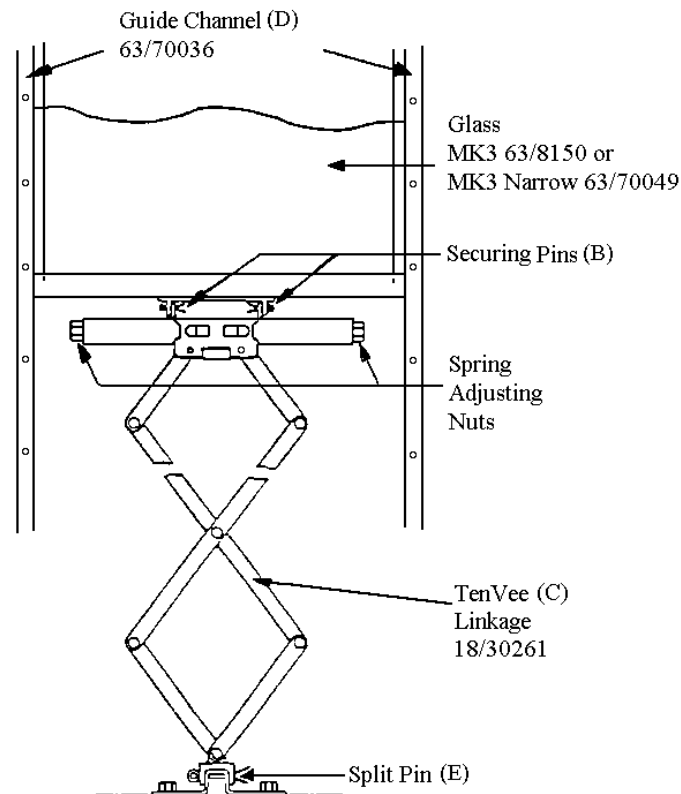

Figure 1: Balance Mechanism
- 1.3 Remove top split pins (see Figure 1 item B) connecting the TenVee (see Figure 1 item C) to the bottom of the droplight frame.
- 1.5 With the droplight in the closed position, peel away the flock sprayed lining or felt from the back of one of the guide channels (see Figure 1 item D). Remove the exposed self tapping screws securing the guide channel to the frame. Push the lining back into the guide channel.